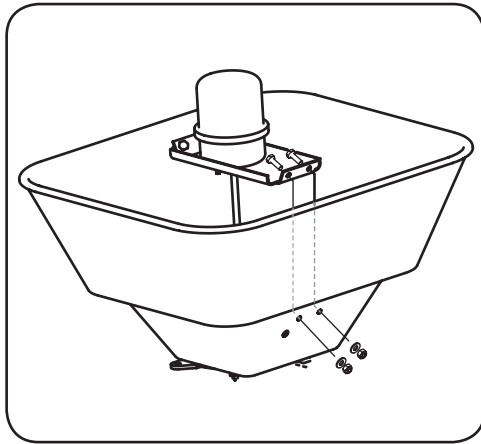

Figure 1-5
- Attach the motor assembly to the bottom inside of the hopper by threading four M6 x 20 bolts through and connecting with flat washers and M6 locknuts. See Figure 1-5